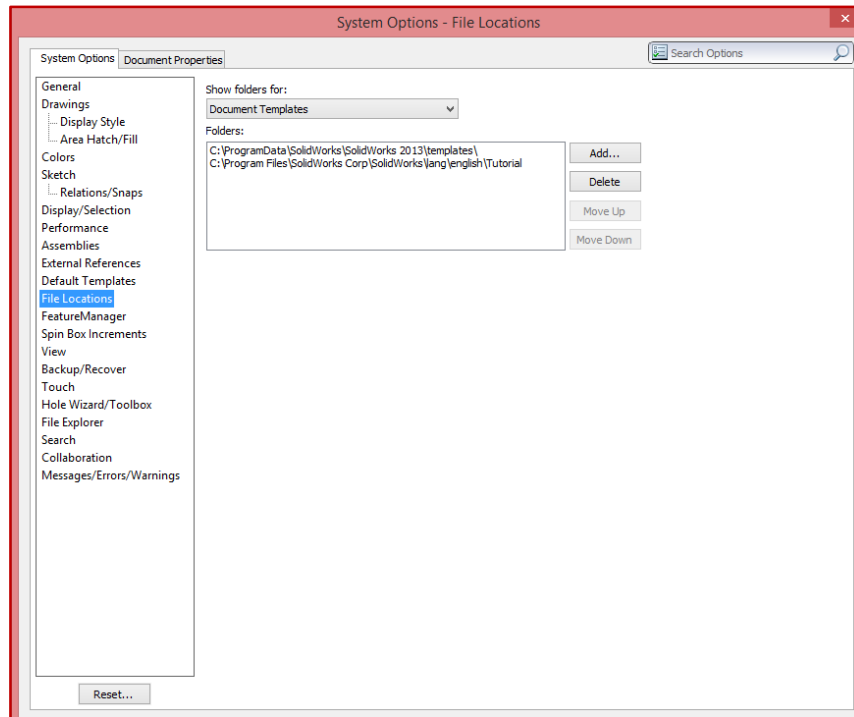

Figure 2.8 – SolidWorks File Location
Step 11: Click on **Tools**→**Add-Ins** to see which ones are available in your version of SolidWorks. See Figure 2.8.